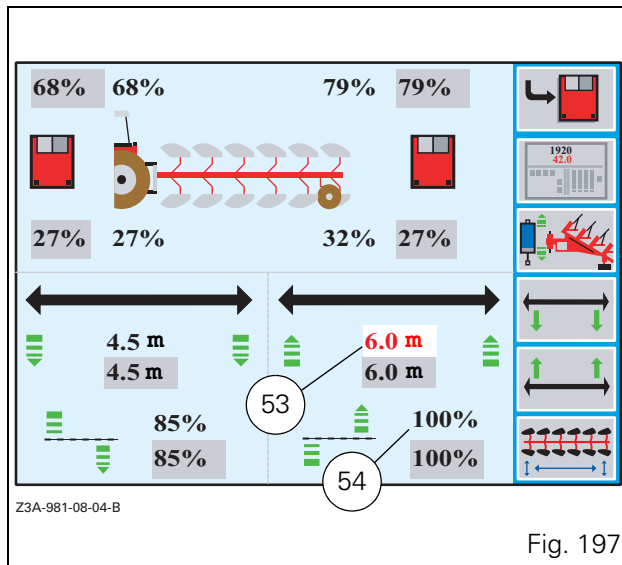
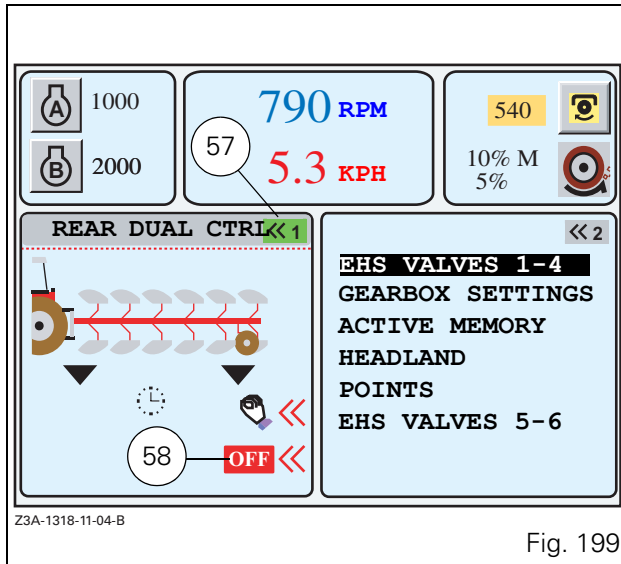

Fig. 197
Fig. 199
- Press the key «5 when the window (Fig. 197) is open. The furrow end length is displayed in red (53 Fig. 197).
- Adjust the length by rotating the encoder and validate by pressing the latter. The value is displayed in black and the furrow end depth wheel partial lifting value is displayed in red (54 Fig. 197).
NOTE: To set the plough depth wheel furrow end partial lifting value, first define the furrow end length (53 Fig. 197).
- When the depth wheel partial lifting value is displayed in red (54 Fig. 197), adjust it by rotating the encoder.
- For this, press the key <<2 when the window (Fig. 197) is open. The window (Fig. 199) is displayed.
- Press the key <<6 when the icon (57 Fig. 199) is green (if this is not the case, first press the key <<1 so the icon (57 Fig. 199) is displayed in green. The DUAL CONTROL function is then active and the symbol (58 Fig. 199) changes from OFF to ON (59 Fig. 200).
NOTE: On b/w screens, the active window is indicated by the icon (57 Fig. 199) in reverse video.
To return to the window (Fig. 197), press the key <<5 when the window (Fig. 200) is open and the icon (57 Fig. 200) is green.